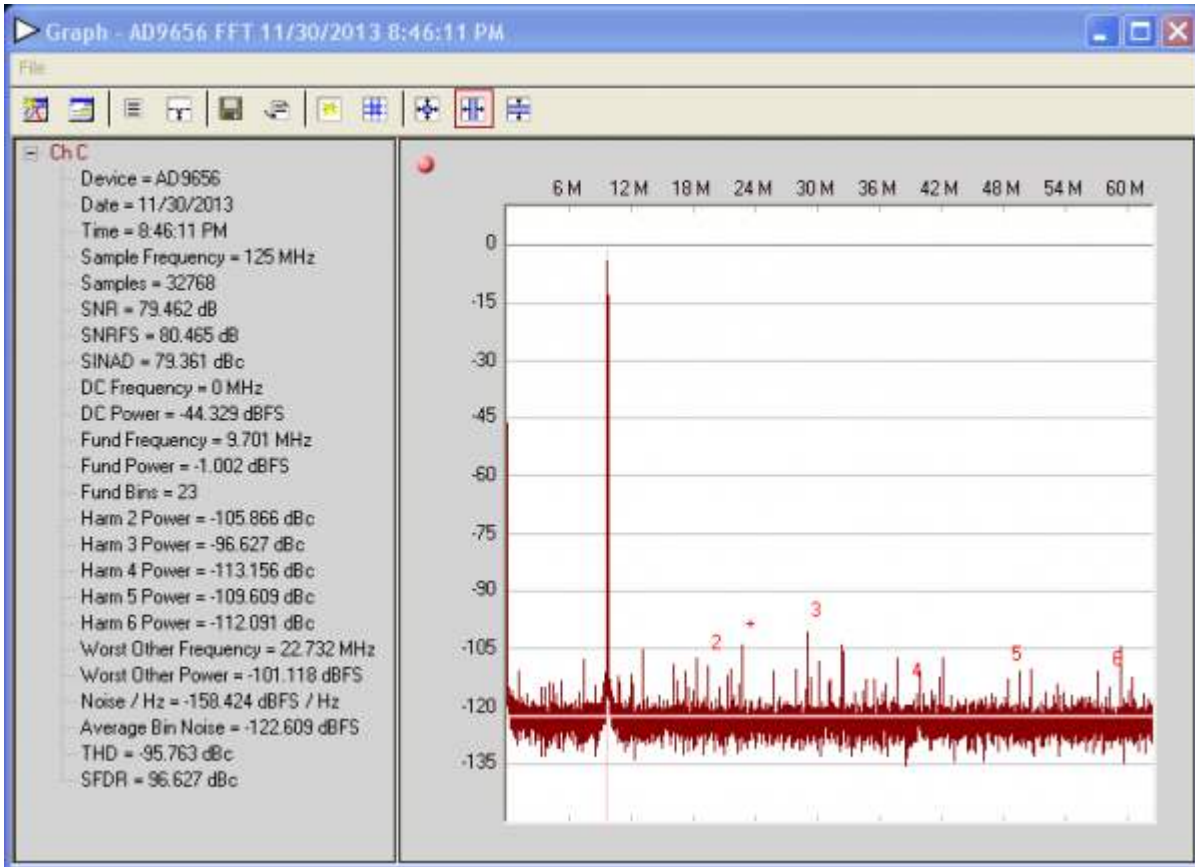

Figure 17. Run/Continuous Run Buttons (Encircled in Red) in VisualAnalog Toolbar, Collapsed Display
7. To begin testing, click the **Run** or **Continuous Run** button in the **VisualAnalog** toolbar (see Figure 17).
If the FFT window remains blank after **Run** in VisualAnalog (see Figure 17) is clicked, do the following: